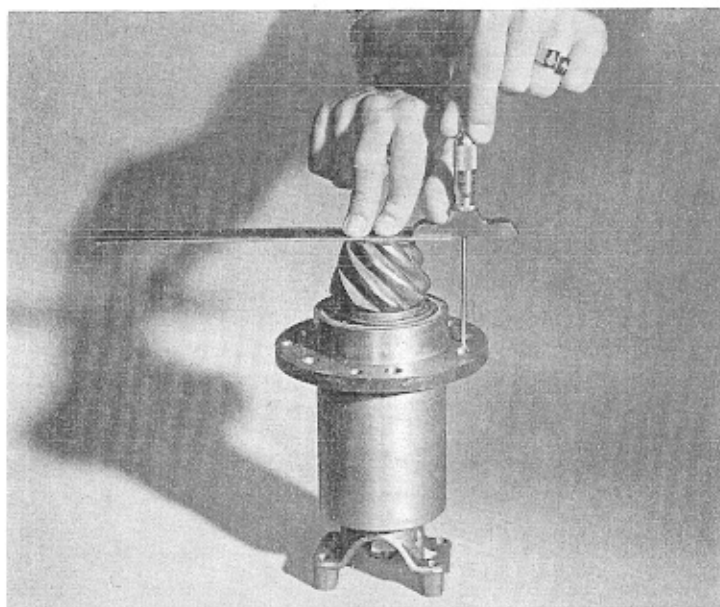

FIG. 3
- 6-48 It should be observed that two dimensions are shown on the drawing-- 5.406 and 5.411. This difference is represented by a .005 gasket 7. All measurements of the pinion location in the pinion housing should be made with the gasket in place, as shown in Figure 3.
- 6-49 With reference to the Drawing 4T9-4, it will be noted that the measurement of the distance that the pinion should be inserted in the housing is indicated as dimension 2.786. It will also be noted that another dimension is given, 2.625, which indicates the position the end of the pinion should assume with regard to the center line of the ring gear mounting axle. On the end of each of the pinions will be found an etched symbol similar to that of the ring gear. The ring gear and pinion are matched sets and should not be used otherwise. Etched on the end of the pinion will be found a decimal plus a minus the amount which the particular pinion, when properly positioned, alters from the standard of 2.625. Therefore, if the pinion should be marked with a plus .002, then the distance indicated on the drawing 2.625 should be converted to read 2.627. Since the dimension 2.786 presumes absolute accuracy, then the variation etched on the end of the pinion will need to be taken into account in connection with determining the proper distance shown in Figure 3.
- 6-50 Before attempting to take the measurement shown in Figure 3, the pinion should be mounted in its housing 52 with the nut 56 tightened firmly against the assembly including the sleeve 51 and shims 50 as required for operation. When the nut 56 is securely tightened, a slight pre-load should be found on bearings 53 and 49. Shim 6 is for pinion protrusion through the pinion housing 52. This is 2.781 as shown on Drawing 4T9-4 before correction.